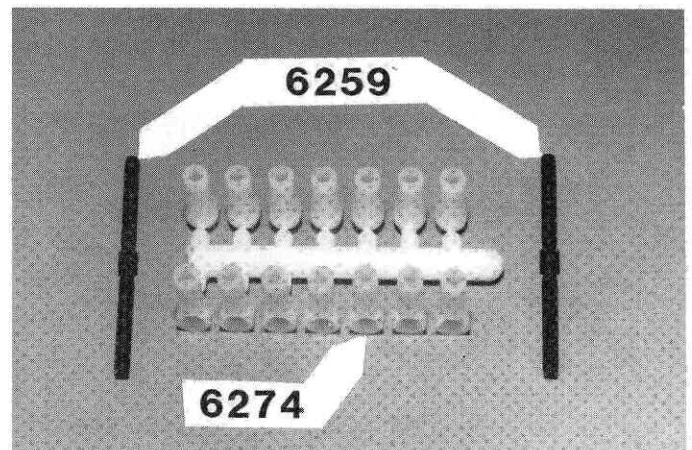

Fig. 16
□ **Fig. 16** In bag #6-1 take out the 2 #6259 threaded turnbuckles, and from bag #6-14 take out the #6274 plastic ball rod ends, as shown. Twist the rod ends and take 4 of them off.